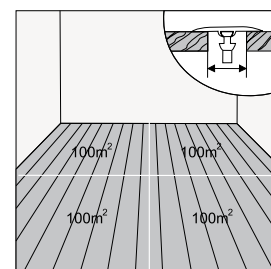

Fig. 4
- floors of the area exceeding 100 m² and/or the length and/or width of which is maximum 10 metres should be divided by dilation joints (**Fig. 4**) and the gaps should be covered with proper mouldings.